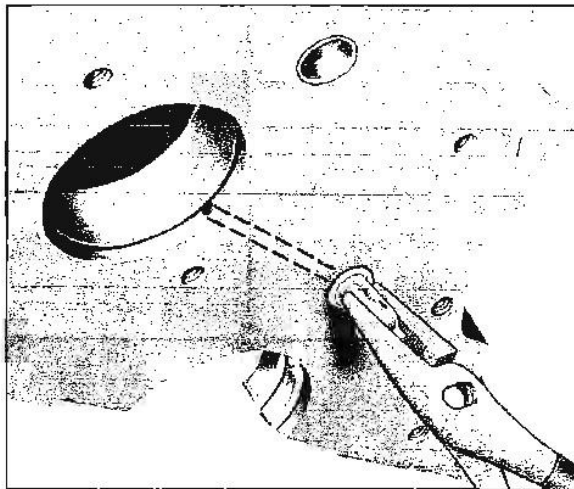

Fig. 6-39 Removing Timing Gear Oil Nozzle
1. Remove nozzle with pliers (Fig. 6-39).